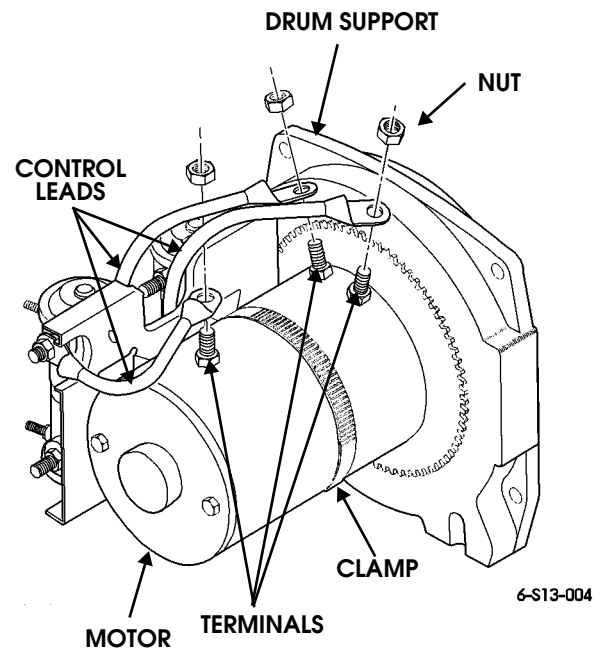

Figure 13-22: Control Leads
25. Connect three control leads to terminals and secure with nuts (Figure 13-22).
2. Remove three nuts and control leads from motor (Figure 13-22).
11. Connect three control leads to terminals and secure with nuts (Figure 13-22).